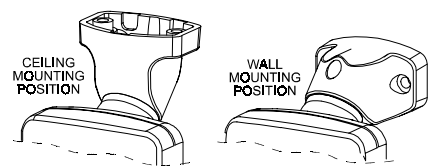

Figure 7. Wall and Ceiling Positions
E. Rotate the bracket to the desired position (refer to Figure 7) but do not yet tighten the screw fully.